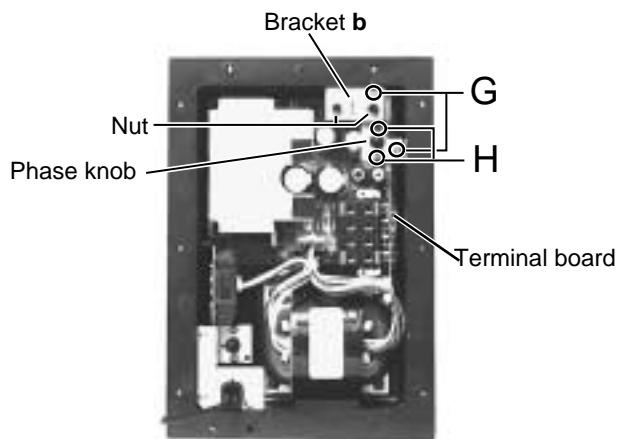

Fig.11
■ Removing the terminal board (See Fig.11, 12)